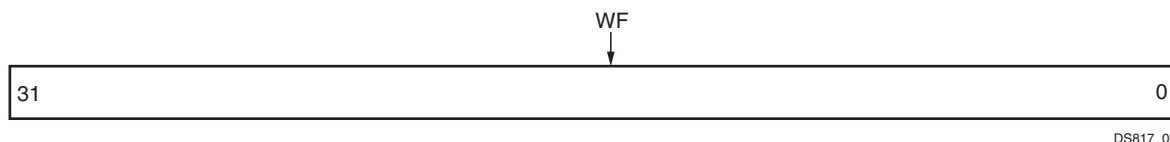

Figure 2: Write FIFO (WF)
The Write FIFO (WF) register shown in Figure 2 is a 32-bit Write FIFO. The bit definitions for the Write FIFO are shown in Table 5. The offset and accessibility of this register from C_BASEADDR value is shown in Table 4.